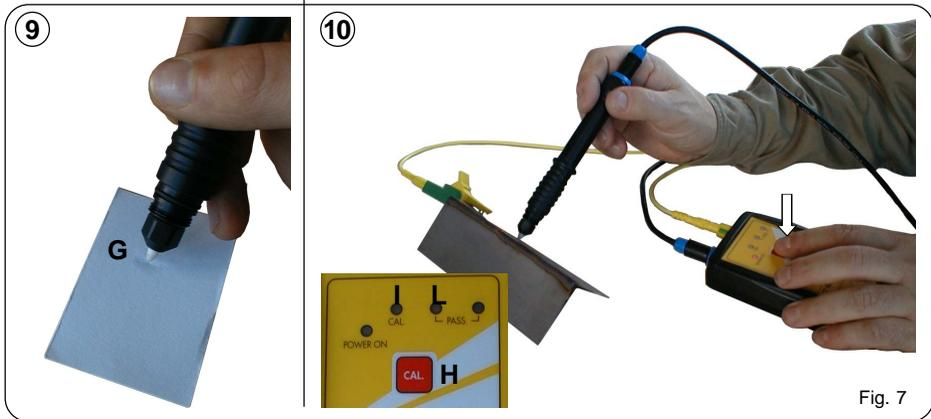

Fig. 7
- 9 Place the ec-pen's nib on the blotting paper and make sure the liquid is seeping out correctly (G, Fig. 7).
- 10 Clean the steel surface that will be tested. Grease has to be removed by a solvent, such as alcohol. Place the nib on the steel surface in a representative area (at least 2 cm from the weld). The ec-pen should be as perpendicular to the surface as possible. Now press the "CAL" (H) key and hold it down until the yellow "CAL." LED (I) goes off and the green "PASS" LED (L) comes on.